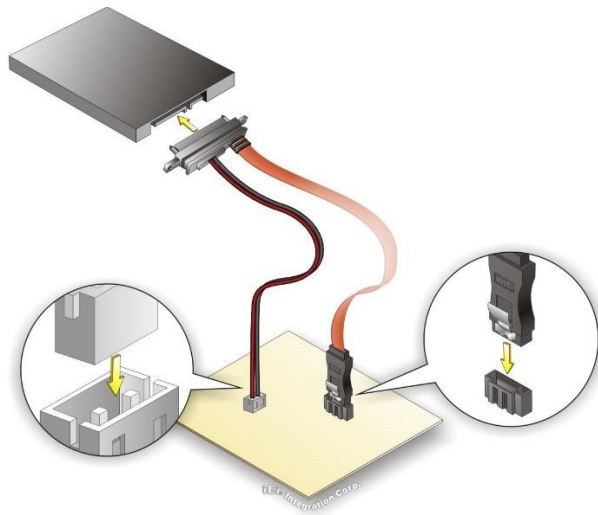

Figure 4-6: SATA Drive Cable Connection
- Step 2:** **Insert the cable connector.** Insert the cable connector into the on-board SATA drive connector and the SATA power connector. See **Figure 4-6**.